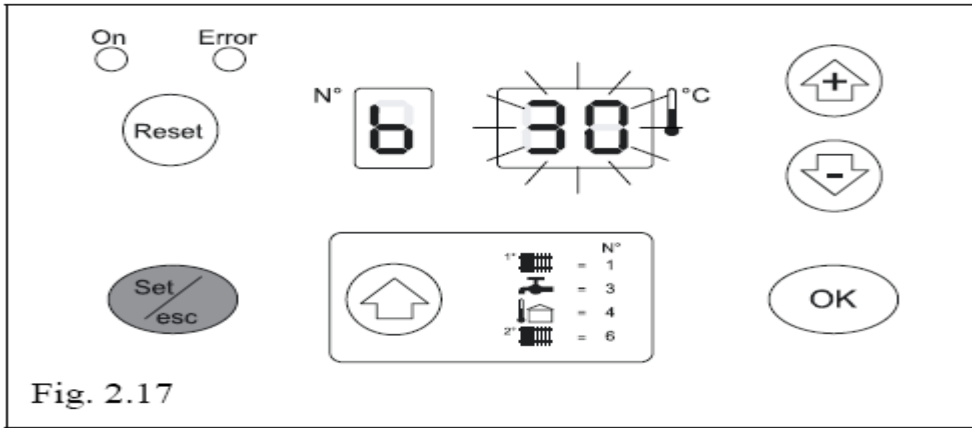

Fig. 2.17
- Press and hold the "Set/Esc" key until the screen flashes. (Figure 2.15) Press "+" and "-" keys to change press "OK" key when desired value is reached. Here, the maximum temperature for the flow water of the low heating circuit is set. (Figure 2.17)
- In low temperature systems, temperature can be selected among 20 °C -45 °C. (Figure 2.17)